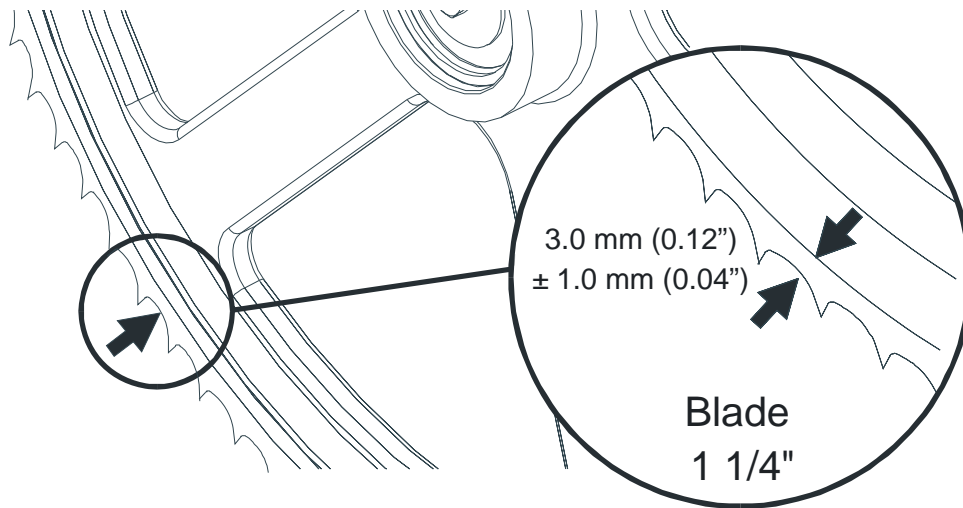

FIG. 2-4
**See Figure 2-4.** 1 1/4" wide blades should be placed on the blade wheels so that the gullet is 3.0 mm (0.12")  $\pm$  1.0 mm (0.04") out from the front edge of the wheel.